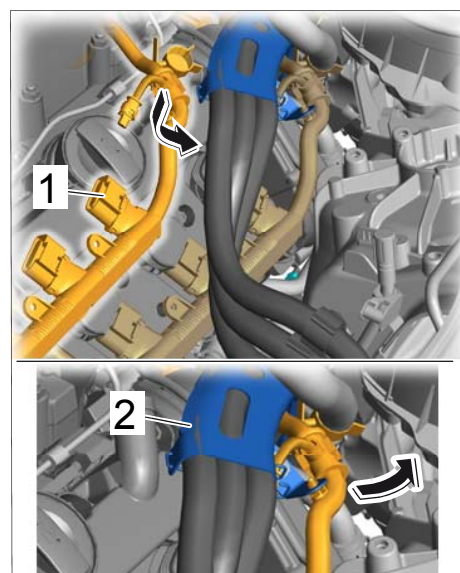

Figure 22
- 5.27 Route the main wire harness ⇒ *Figure 22* -**item 1**- under the holder for the high-voltage wires ⇒ *Figure 22* -**item 2**- again and align it.